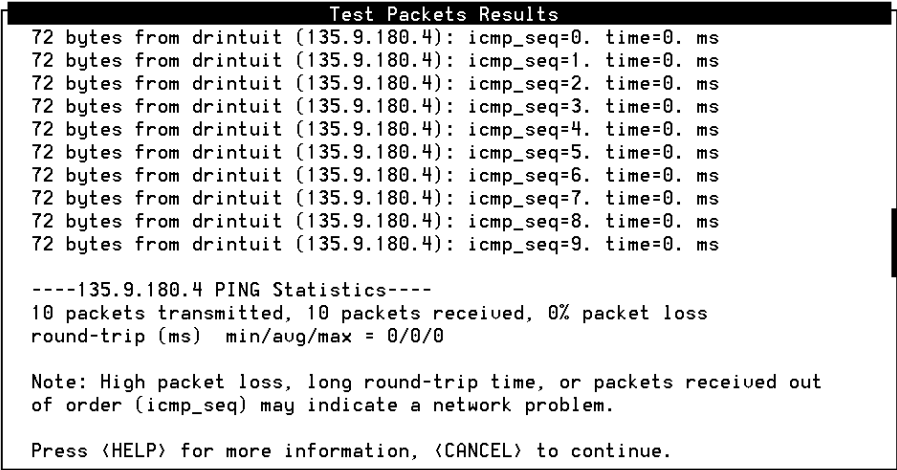

Figure 8-8. Test Packet Results Window — Internal Test
The system displays the word *working* in the upper right corner of the screen while it is performing this test. When the test is finished, the system displays the Test Packets Results window (Figure 8-8).
Figure 8-8 is an example only. The test results displayed for your system will not match those shown here.
- Examine the test results that are displayed around the midpoint of the window. In Figure 8-8, the sample results appear as:
The system displays the word *working* in the upper right corner of the screen. When the system finishes the test, it displays the Test Packets Results window (Figure 8-8).
Figure 8-8 is an example only. The test results displayed on your window will not match those shown.
2. Examine the test results that are displayed around the midpoint of the window. In Figure 8-8, these results appear as: